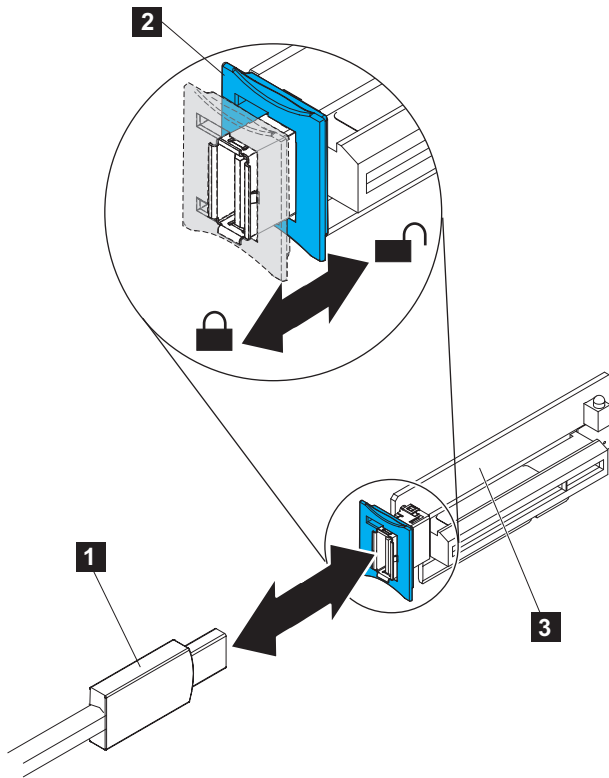

Figure 76. USB service-controller cable connector on the USB riser card
- c. Grasp the blue lockbar (**2** in Figure 76 on page 95) and slide it toward the USB riser-card assembly (**3**) to the unlock position and remove the USB cable (**1**) from the connector.
- b. Align the USB service-controller cable (**1** in Figure 76) with the connector on the USB riser-card assembly (**3**) and push it into the connector until it is firmly seated.